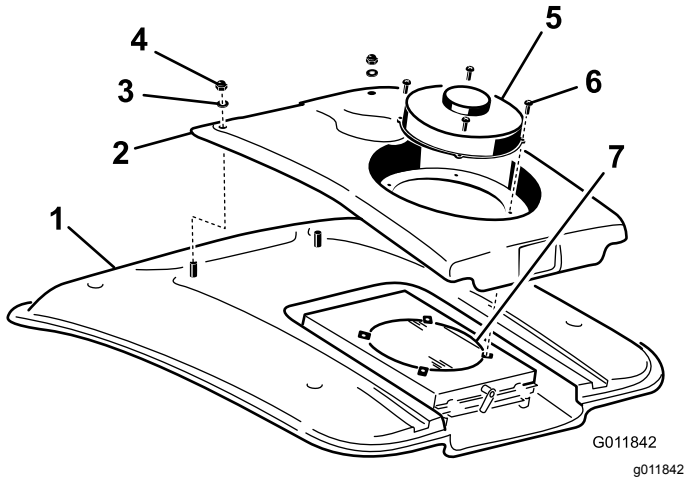

Figure 116
2. Remove the (4) screws securing the fan and the condenser cover to the fan mount (Figure 116).
4. Remove the two nuts and washers securing the front of the condenser cover to the cab roof (Figure 116).
8. Clean the air conditioning condenser thoroughly with compressed air (Figure 116).